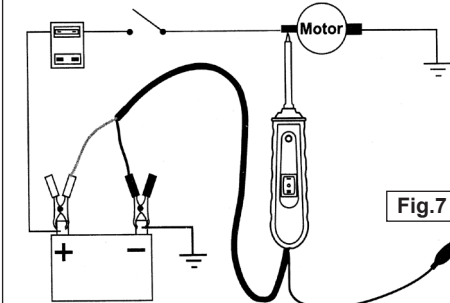

Fig.7
3.8 ACTIVATING COMPONENTS WITH A POSITIVE (+) VOLTAGE WITHIN THE VEHICLE'S ELECTRICAL SYSTEM (See Fig.7).